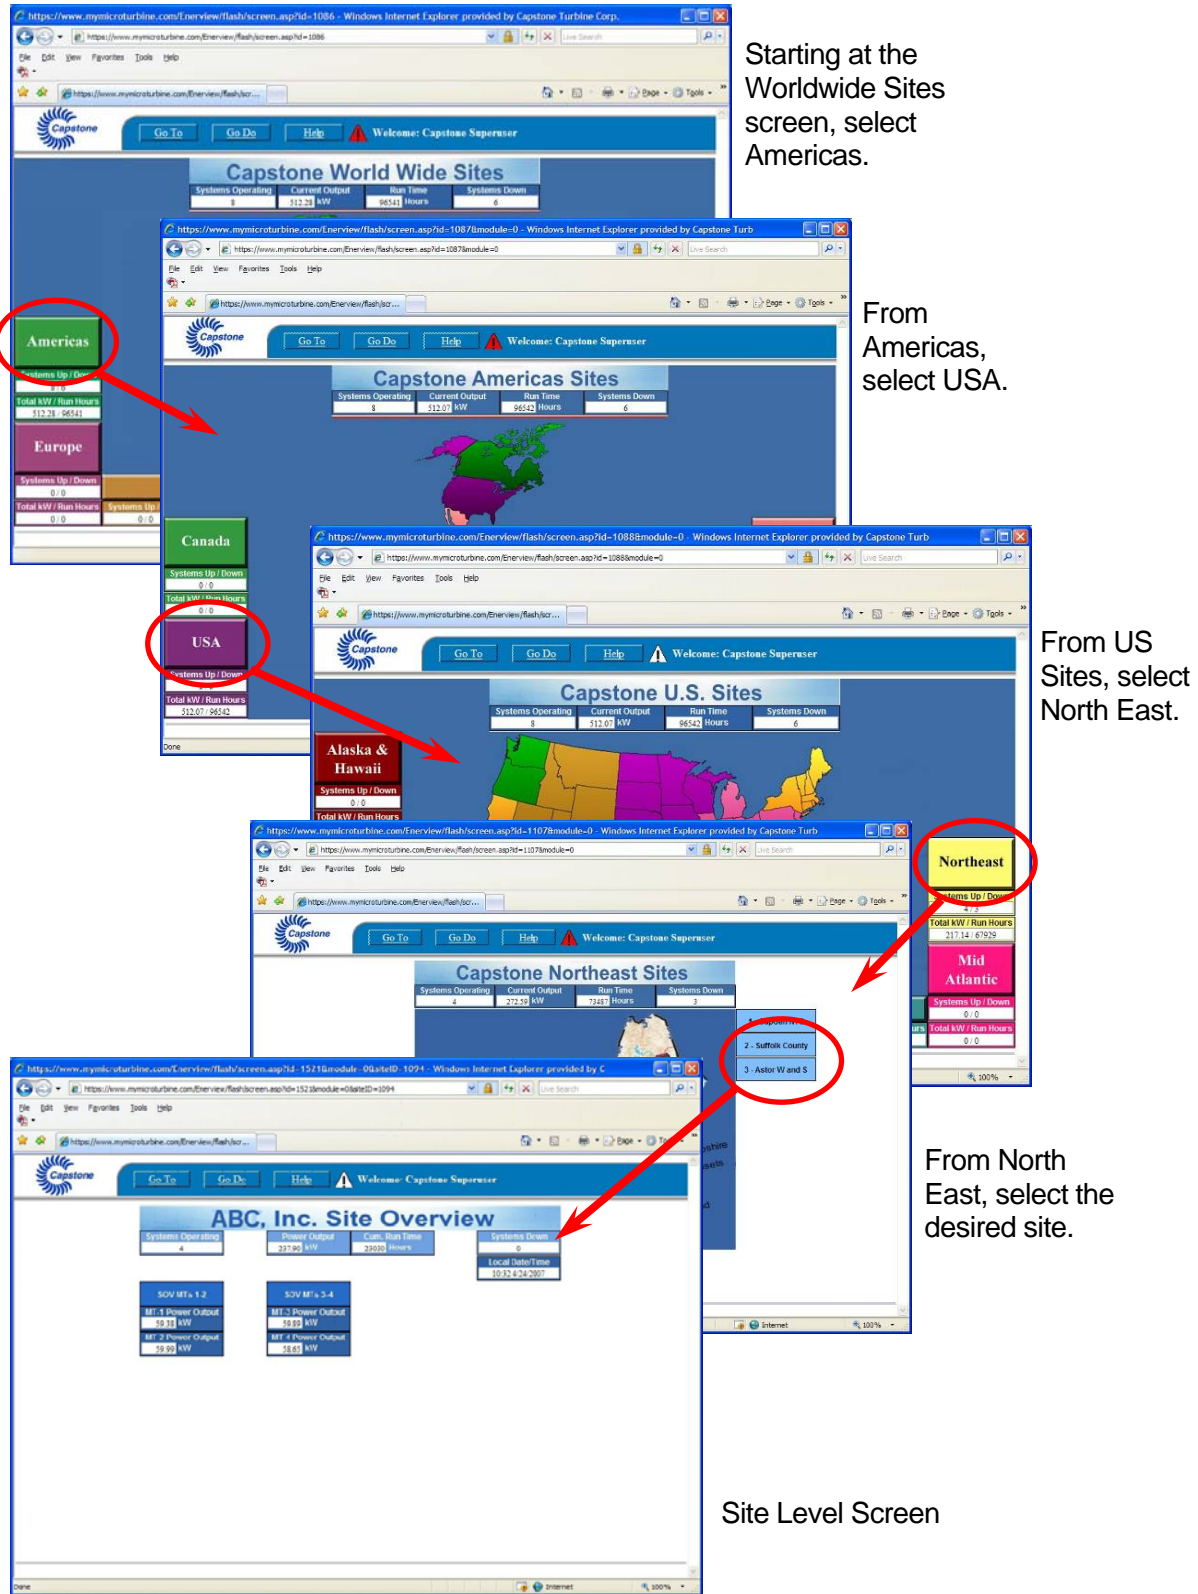

Figure 9. Example of Navigating to a Specific Site Using Regional Screens
1. Navigate down to the local (site) level by selecting the appropriate region from each screen (see Figure 9).
For the first option, each major region is represented by a different color on the map. To navigate to a specific region, click the box with the associated color/name to go to that screen. Figure 9 shows an example of how to navigate from the Worldwide Sites screen to a specific end user site.